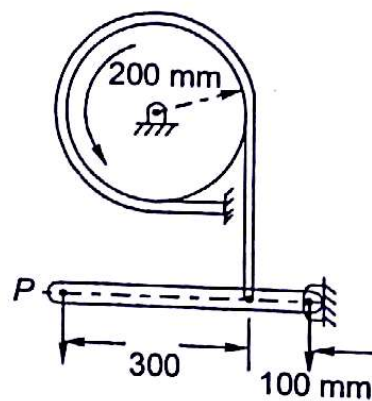

Fig. 7.9
7.2 A hand brake is used to control the speed of a flywheel as shown in Fig. 7.9. The coefficients of friction are $\mu_s = 0.30$ and $\mu_k = 0.25$. What couple should be applied to the flywheel to keep it rotating counter-clockwise at a constant speed, when $P = 60$ N?